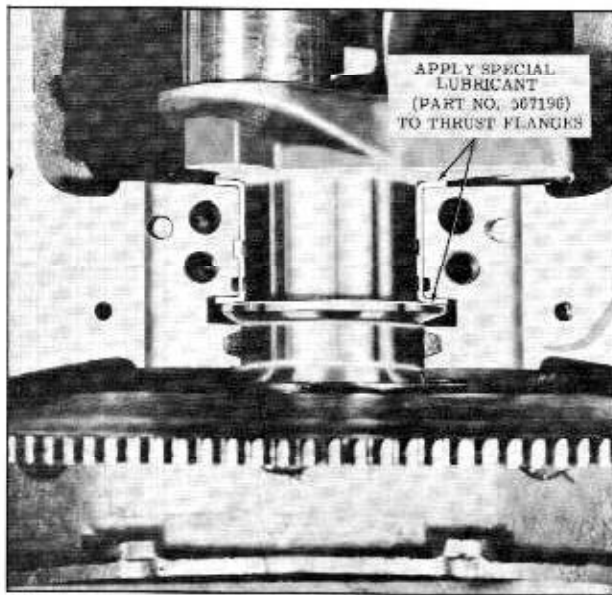

Fig. 8-32 Rear Main Bearing
5. No. 5 bearing - apply Special Lubricant (Part No. 567196) to the thrust flanges of bearing shells. (Fig. 8-32)